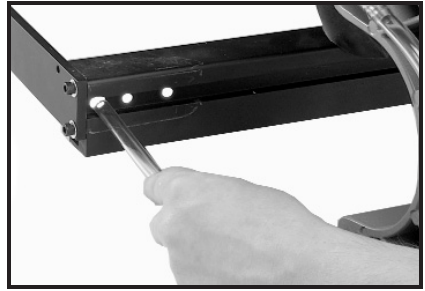

Fig. 6
1. Insert the water pump hose into the largest hole in the side of the cutting tray (from the outside) Fig. 6, pull the hose through the hole.